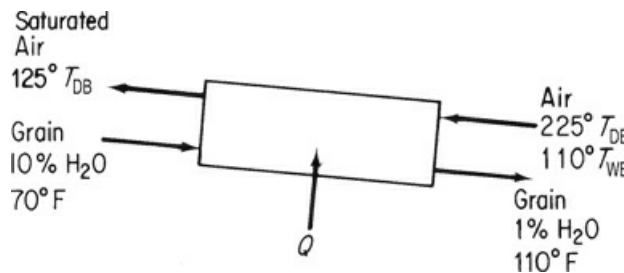

Figure P10.3.1
****10.3.1** A rotary dryer operating at atmospheric pressure dries 10 tons/day of wet grain at 70°F , from a moisture content of 10% to 1% moisture. The airflow is countercurrent to the flow of grain, enters at 225°F dry-bulb and 110°F wet-bulb temperature, and leaves at 125°F dry-bulb. See Figure P10.3.1. Determine (a) the humidity of the entering and leaving air if the latter is saturated, (b) the water removal in pounds per hour, (c) the daily product output in pounds per day, (d) the heat input to the dryer.